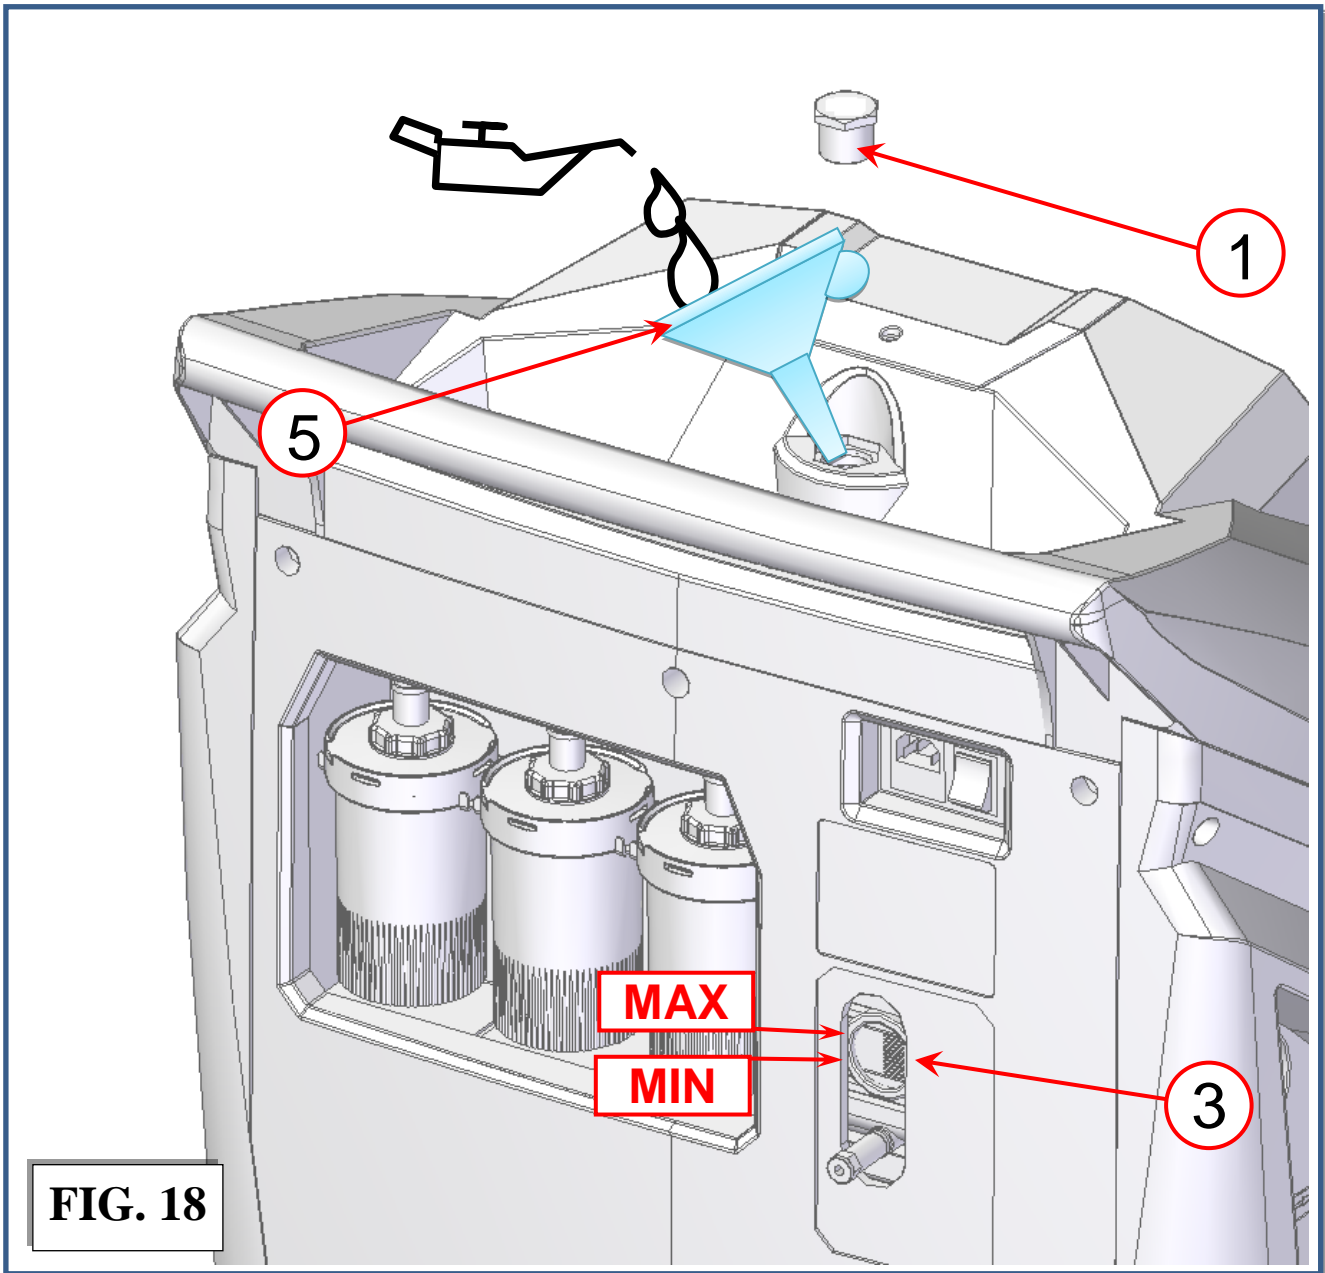

FIG. 18
Locate the filling cap (ref 1, Fig.18) and screw it completely off.
The oil must be added through the hole in which the oil cap was lodged by using a proper funnel (ref 5, Fig.18).
Add oil a little at a time, waiting for the level to rise before each successive addition, until the oil level is about $\frac{1}{2}$ cm above the red mark on the indicator (ref 3, Fig.18).
Replace the filling cap (ref 1, Fig.18) and tighten down.